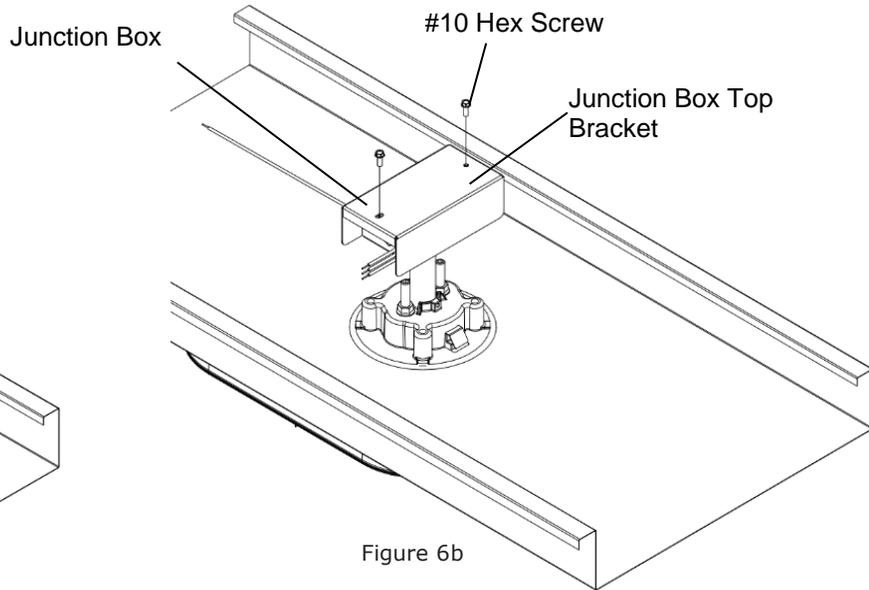

Figure 6b
- Secure the junction box top bracket on to the Junction box bottom bracket using (2) #10 hex-head screws. Fig 6b